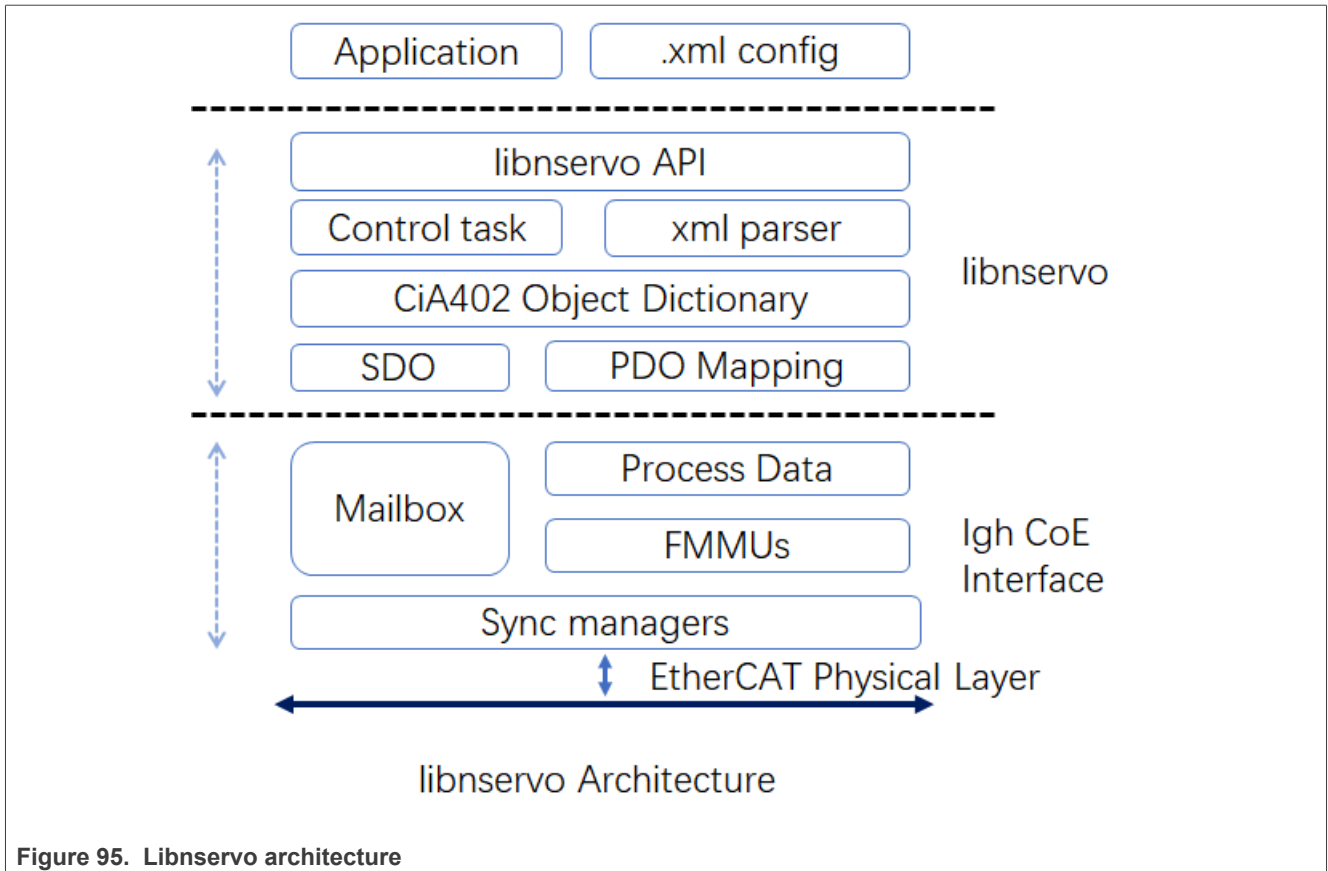

Figure 95. Libnservo architecture
**real-time-edge-servo** runs on top of the *Igh* EtherCAT stack. The *Igh* stack provides CoE communication mechanisms - Mailbox and Process Data. Using these mechanisms, real-time-edge-servo can access the CiA Object Dictionary located on CoE servo. The Figure 95 shows the Libservo architecture.